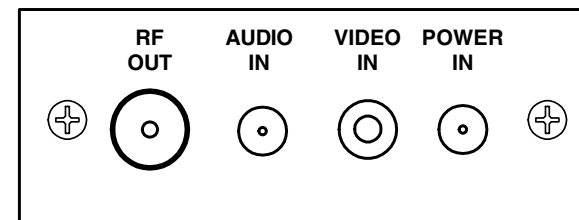

Figure 1
2. Connect the RF (video) output from the video source to the HS-VM1100 "VIDEO IN" jack using the supplied video patch cord. See Figure 1.
3. (Optional) Connect the audio output from the source to the HS-VM1100 "AUDIO IN" jack (3.5mm) using the supplied audio patch cord. See Figure 1.
3. Connect the RF (video) output patch cord from the video source to the HS-VM1100 "VIDEO IN" jack. See Figure 1.
4. (Optional) Connect the audio output patch cord from the source to the HS-VM1100 "AUDIO IN" (3.5 mm) jack. See Figure 1.